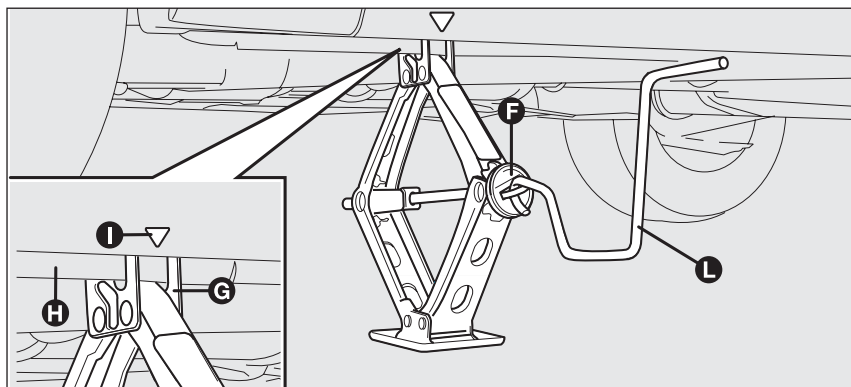

fig. 14
- ☐ Fit the handle **L-fig. 14** to operate the jack and lift the car until the wheel to be changed is several centimetres off the ground;
- ☐ Turn the jack handle **L-fig. 14** to lower the car and remove the jack;